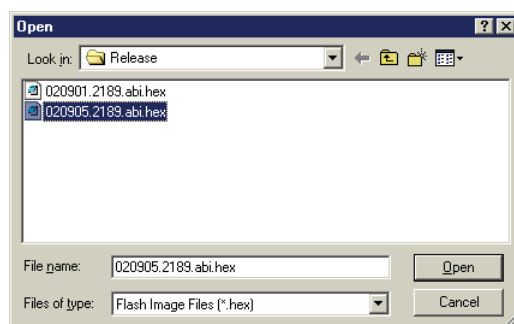

Figure 6-14 Select firmware upgrade
3. Select and open the appropriate **.hex** file provided (Figure 6-14). The upgrade will start.